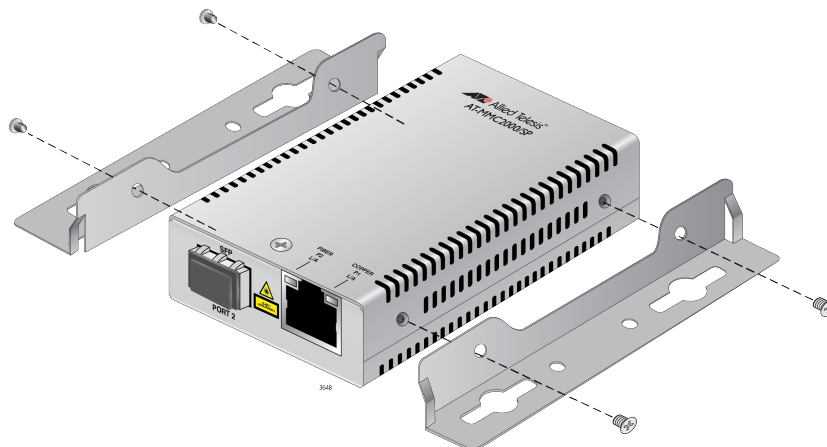

Figure 36. Attaching the Brackets to the Media Converter
4. Orient the brackets against the sides of the unit, as shown in Figure 36, and secure them to the unit with the four of the brackets screws included.